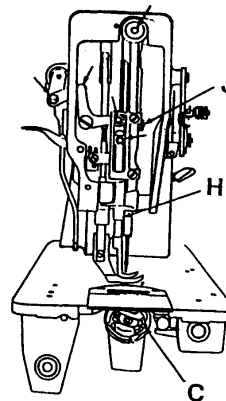

Fig.3
2) Holding the bottom of the needle bar rock frame H (Fig.3) move it as may be required to get the correct position to the feed dog.
You can also adjust this at its lowest point. In this case, normally the measurement between the surface of the needle plate and the upper end of the needle eye is 11 mm. To adjust this, loosen the screw J (Fig.3) and raise or lower the needle bar as may be required. Then, tighten the screw upon completion of adjustment.